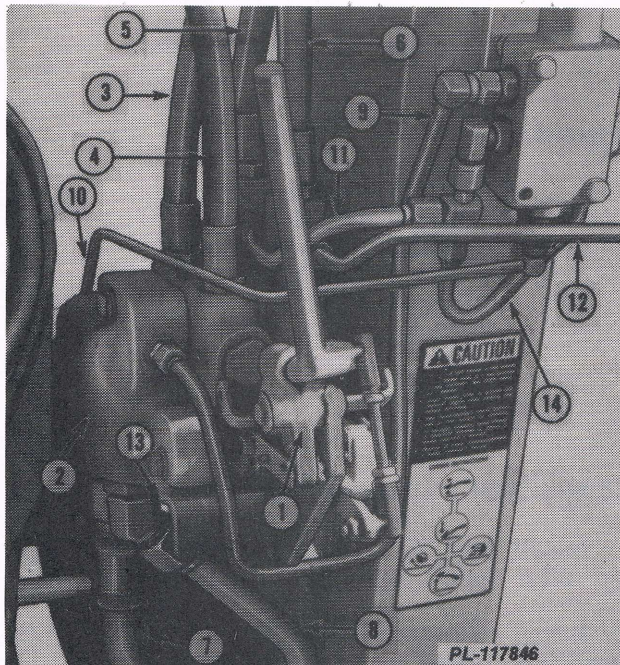

Fig. 3
2. Disconnect loader linkage (1, Fig. 3) from valve bank (2).
3. Remove the following tubes and hoses (Refer to Fig. 3):
- a. Boom cylinder lower hose (3)
- b. Boom cylinder raise hose (4)
- c. Bucket cylinder dump hose (5)
- d. Bucket cylinder retract hose (6)
- e. Return hose (7)
- f. Loader pressure tube (8)